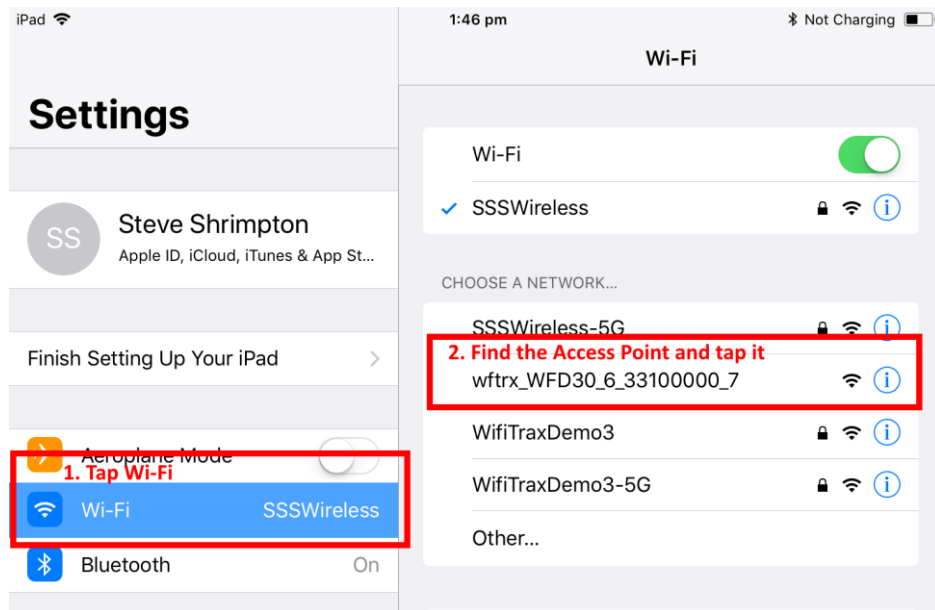

Figure 8 Connecting to the WFD-30/31 Wi-Fi Access Point
- (3) Before opening the app, make sure your WFD-30/31 is connected, your NCE Command Station is powered up and there is a locomotive on the track with a known DCC address. Both the red power LED and the blue Cab Bus indicator LED should be alight. The red LED comes on immediately power is applied. The blue LED comes on as soon as a Cab Bus Connection is established with your NCE Command Station.
- (4) Now run the Settings app on your iPhone (or iPad etc.):
- (5) Tap Wi-Fi on the left-hand menu. You should see a collection of available Wi-Fi Access Points on your right. Look for one that is of the form wftrx\_WFD30\_1\_XXXXXXX\_7 or wftrx\_WFD31\_1\_XXXXXXX\_7, where XXXXXXXX is the serial number of your unit that appears on its bag and the unit itself. Tap that Wi-Fi Access Point as Figure 8 (The "1" may be replaced by "6" or some other number).